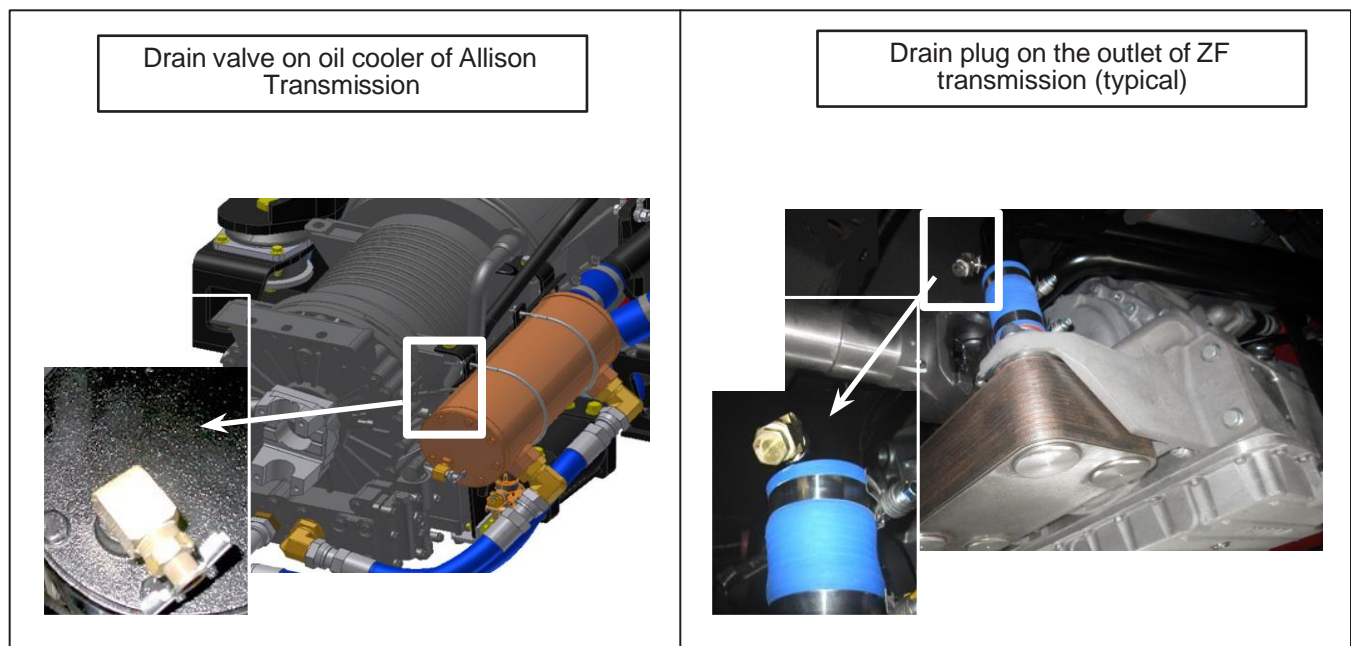

Figure 4 - Coolant Drain Valve / Plug
- If equipped with an Allison transmission, open the drain valve on the transmission oil cooler. See Figure 4.
- If equipped with a ZF or Voith transmission, remove the drain plug on the transmission outlet hose. See Figure 4.